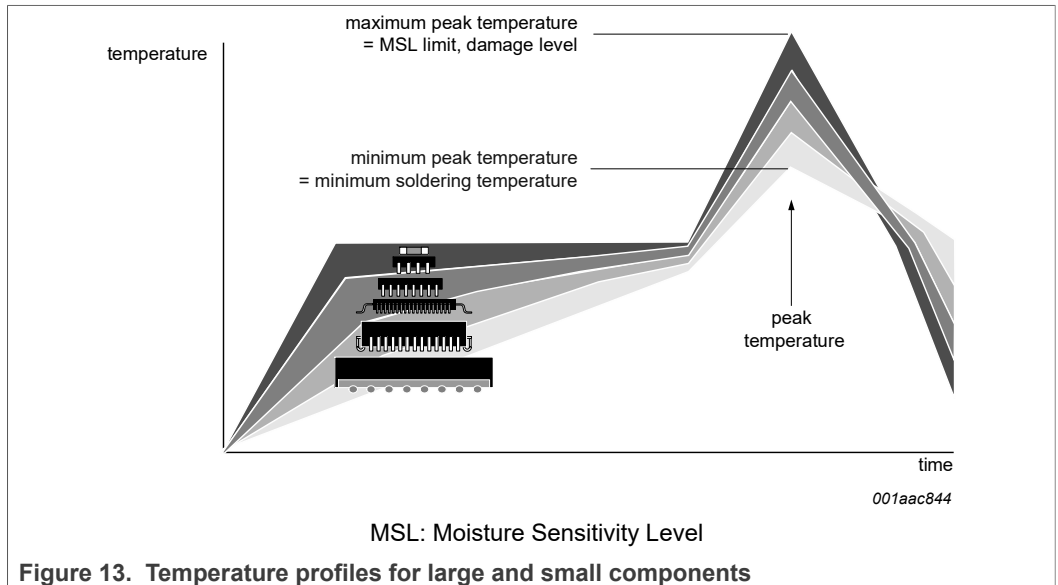

Figure 13. Temperature profiles for large and small components
- Lead-free versus SnPb soldering; note that a lead-free reflow process usually leads to higher minimum peak temperatures (see Figure 13) than a SnPb process, thus reducing the process window
Studies have shown that small packages reach higher temperatures during reflow soldering, see Figure 13.